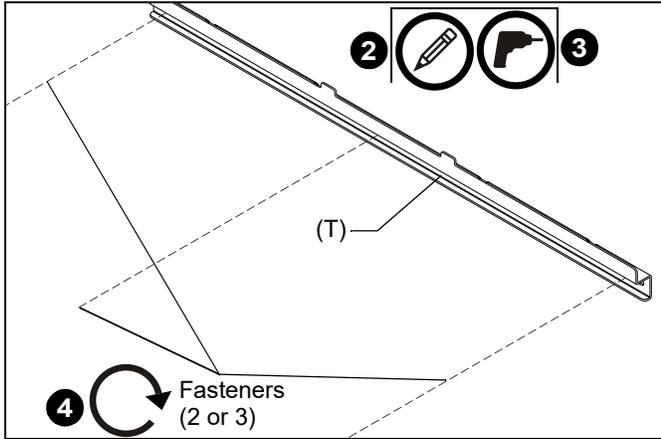

Figure 6
- Determine location of studs behind drywall. (See Figure 6)
- Measure and mark the appropriate distance below the projector mount wall bracket (U) according to the measurements listed in Table 2 and referencing the Installation Template. (See Table 2)
- Drill one pilot hole (see Table 1 for size) at each location marked in Step 2 (See Figure 6) and follow fastener information (appropriate for wall type) located in Table 1.
- Fasten screen mounting bracket (T) to wall using fasteners appropriate to wall type (See Table 1). (See Figure 6)